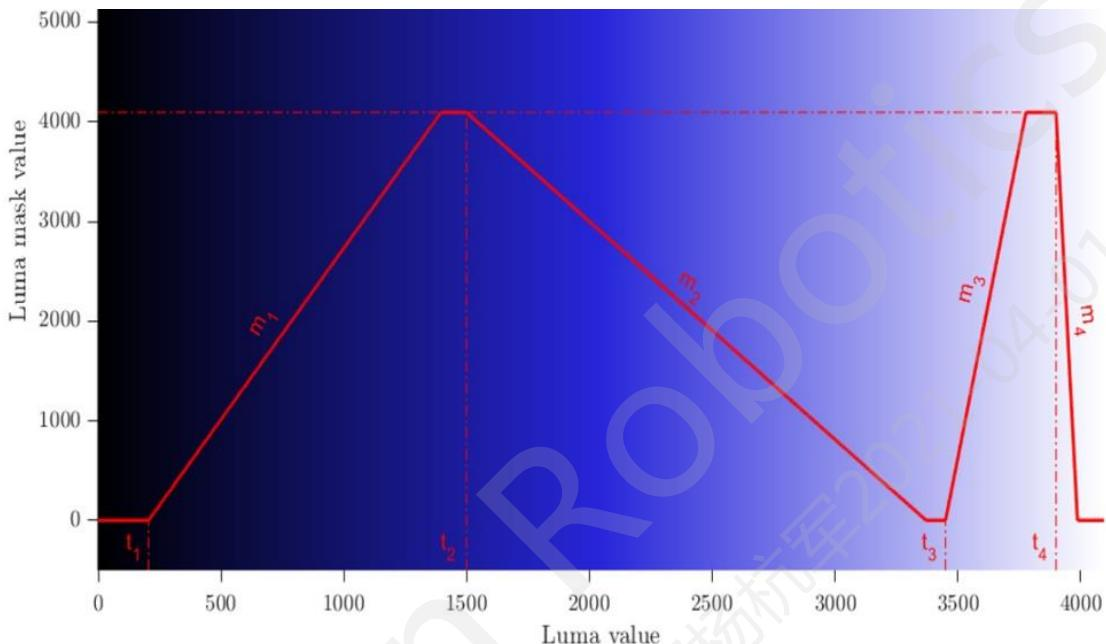
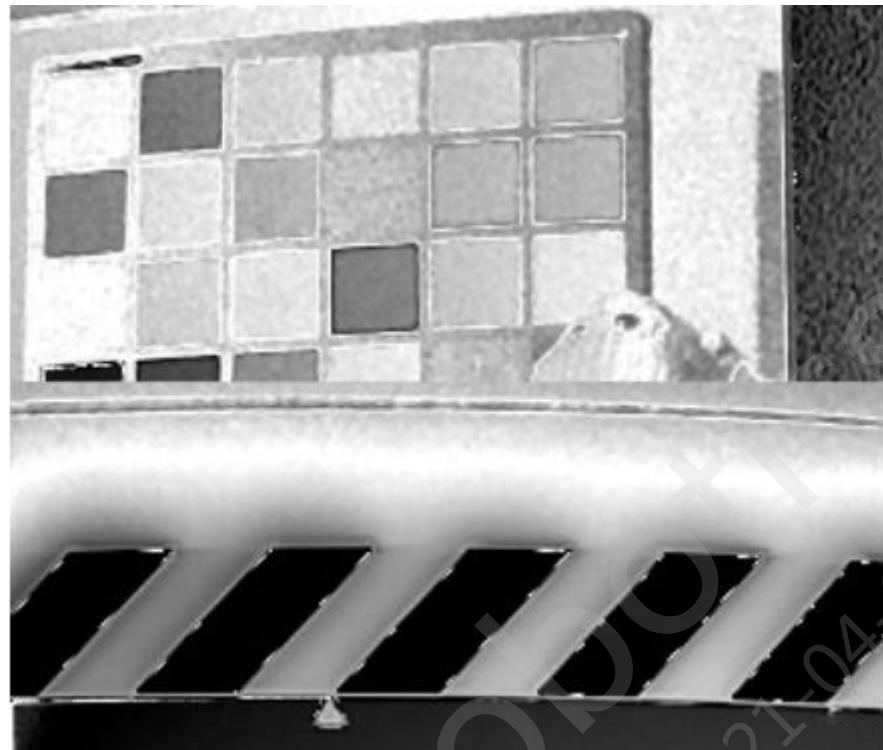

Figure 3.16-6 Luma parameters and curve
Figure 3.16-7 Tuned luma mask
These registers define the linear threshold function, depicted in Figure 3.16-6. As fringing occurs around edges, the function allows for two peaks - one for each dark and light side of an edge. "Luma1" registers isolate tones associated with fringing on the dark side of each edge. "Luma2" does the same for the light side of each edge.
8. Referring to Figure 3.16-6, adjust the shape of the filter using "thresh" and "slope" registers until all fringing regions are included in the mask, with other regions minimized. Figure 3.16-7 shows a tuned luma mask.